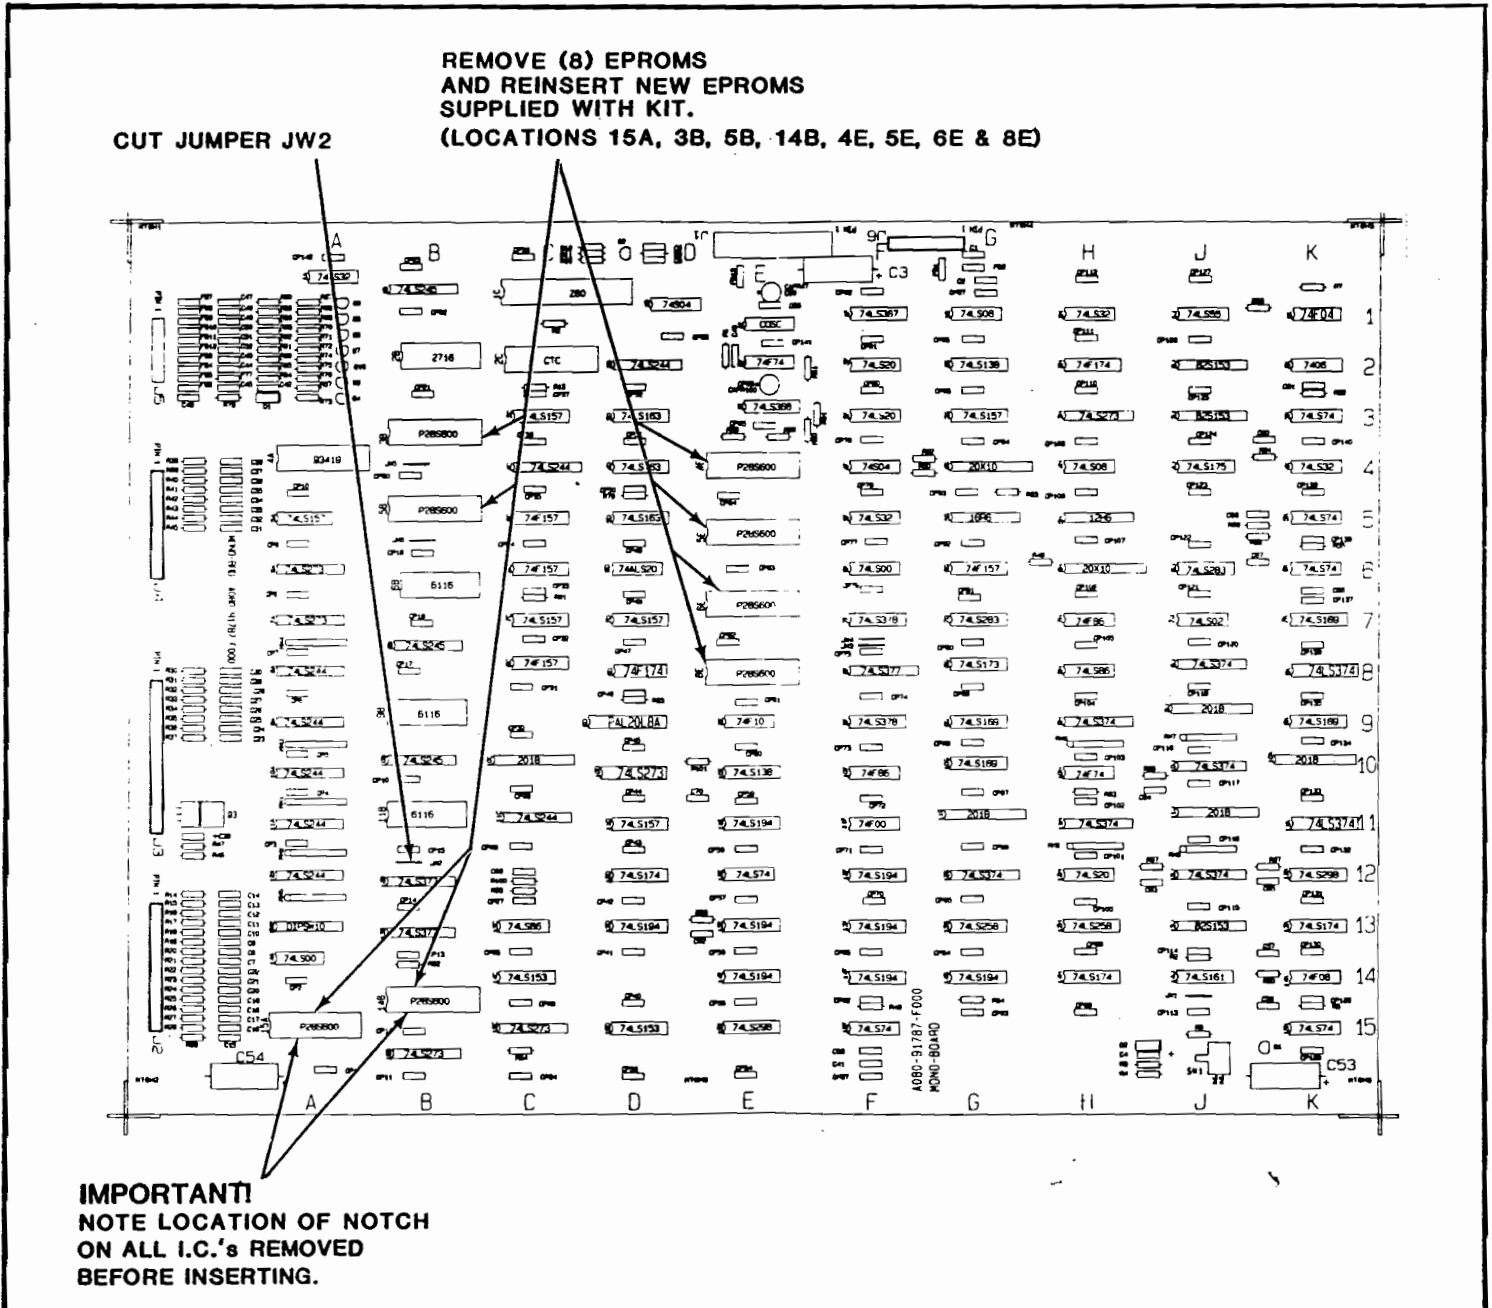

Figure 1
1. Remove the eight EPROMS located on the MONOBOARD as shown in Figure 1 and discard them. Replace the removed EPROMS with the ones supplied in your conversion kit. They are installed as shown in Figure 1. Also cut jumper JW2.